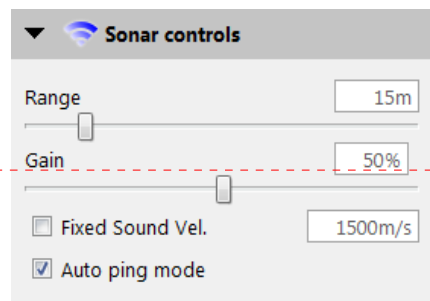

Figure 7. Sonar Controls
**Sonar controls** appear on the sidebar in acquisition mode, for the Trittech Gemini, Marine Electronics Dolphin SeaView, Blueprint Subsea Oculus and StarFish, Imagenex YellowFin and BlackFin and R2Sonic sonars (Figure 7) See Section 6.4.126-4.12 for details of each setting. These controls do affect the raw data. For other sonar users, sonar controls are implemented directly in the native software.